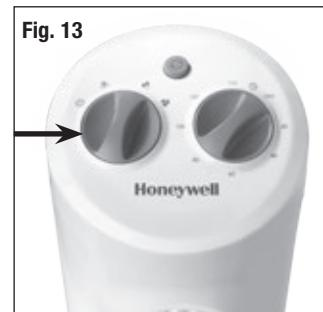

Fig. 13
- To operate, turn knob and select appropriate fan speed: High (▲), Medium (▼), or Low (○) (Fig. 13).